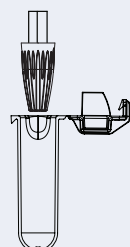

Fig. 3
- Insert the splice to the bottom of the sealant filled tube. Fig. 3